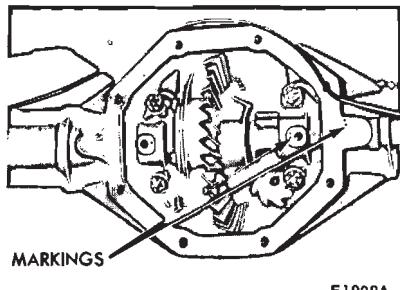

FIG. 17—Typical Differential Bearing Cap Marking
10. Mark one differential bearing cap and the case (Fig. 17) to help position the parts properly during assembly.